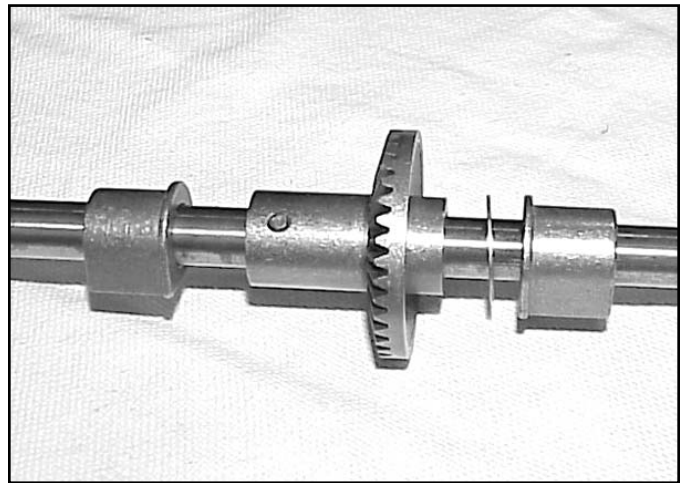

Fig 054
3. Install the transmission bearings with the flange facing the gear (Fig. 054).